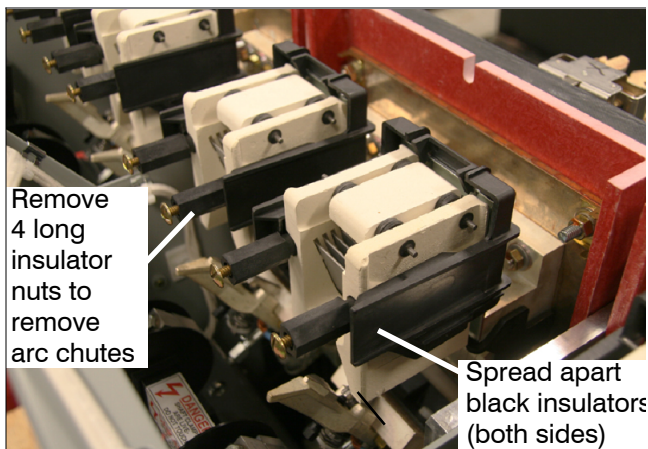
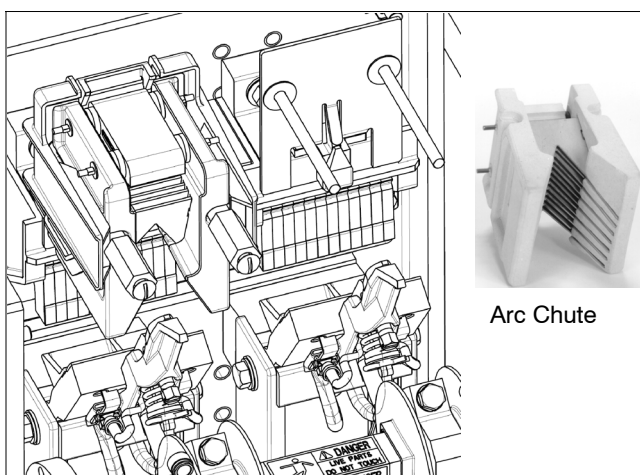

Figure 10-5 Two Arc Chutes (secured by four long insulator nuts and black insulator side pieces)
Figure 10-6 One Arc Chute Removed
Use a 5/8 inch nutdriver to remove four long insulator nuts. Spread apart the black insulators (both sides of the arc chutes) while carefully pulling the arc chute outward (off the long threaded rods). Place the arc chutes in a safe place to prevent breakage. See Figure 10-5 and Figure 10-6.
4. **Carefully remove the two arc chutes.** Use a 5/8 in. nutdriver to remove four long insulator nuts. Spread apart the black insulators (both sides of the arc chutes), then carefully pull the arc chute outward (off the long threaded rods). Place the arc chutes in a safe place to prevent breakage. See Figure 10-5 and Figure 10-6, page 160.